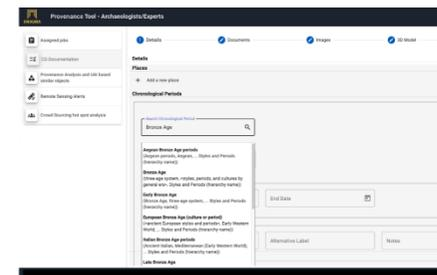

Figure 9: Job details screen.
5. After selecting an item, the system will display the detailed view in the Details tab, as shown in *Figure 9*.